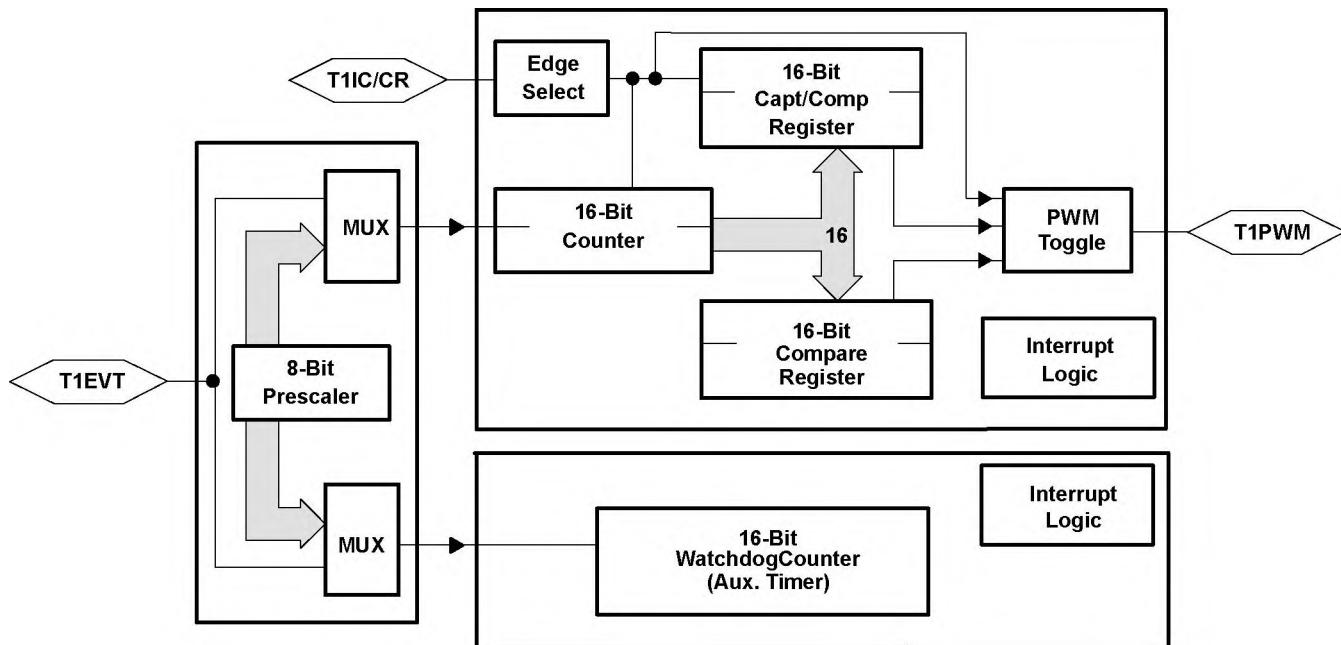

Figure 6. Timer 1 Block Diagram
The programmable timer 1 (T1) module of the TMS370Cx5x provides the designer with the enhanced timer resources required to perform realtime system control. The T1 module contains the general-purpose timer and the watchdog (WD) timer. The two independent 16-bit timers (T1 and WD) allow program selection of input clock sources (real-time, external event, or pulse-accumulate) with multiple 16-bit registers (input capture and compare) for special timer function control. The T1 module includes three external device pins that can be used for multiple counter functions (operation mode dependent) or used as general-purpose I/O pins. T1 module is shown in Figure 6.